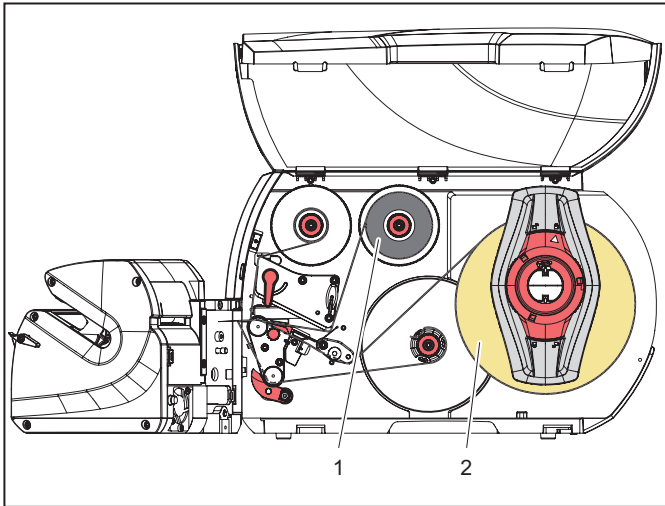

Figure 8.5 Insert material
- ▶ Insert the transfer film (1) and labels (2) and check the material run, see Figure 8.5.